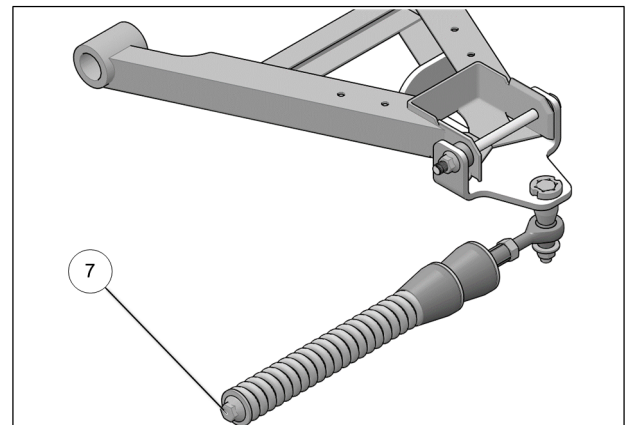

Fig. 12
11. Verify that spring assembly bolt (7) is tightened to the recommended torque specification: $75 \text{ N}\cdot\text{m}$ [$55 \text{ lb}\cdot\text{ft}$]. Refer to Fig. 12